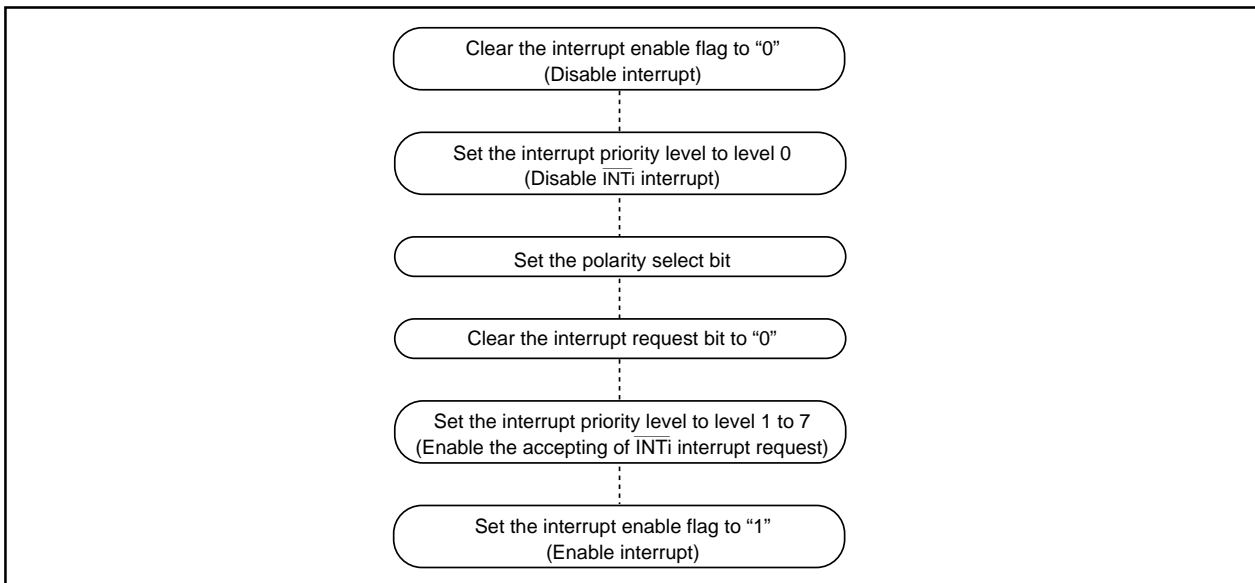

Fig.DD-19 Switching condition of \overline{INT} interrupt request
(3) The $\overline{\text{NMI}}$ interrupt
(4) External interrupt
- When the polarity of the $\overline{\text{INT}}_0$ to $\overline{\text{INT}}_{11}$ pins is changed, the interrupt request bit is sometimes set to "1". After changing the polarity, set the interrupt request bit to "0". Fig.DD-19 shows the procedure for changing the $\overline{\text{INT}}$ interrupt generate factor.